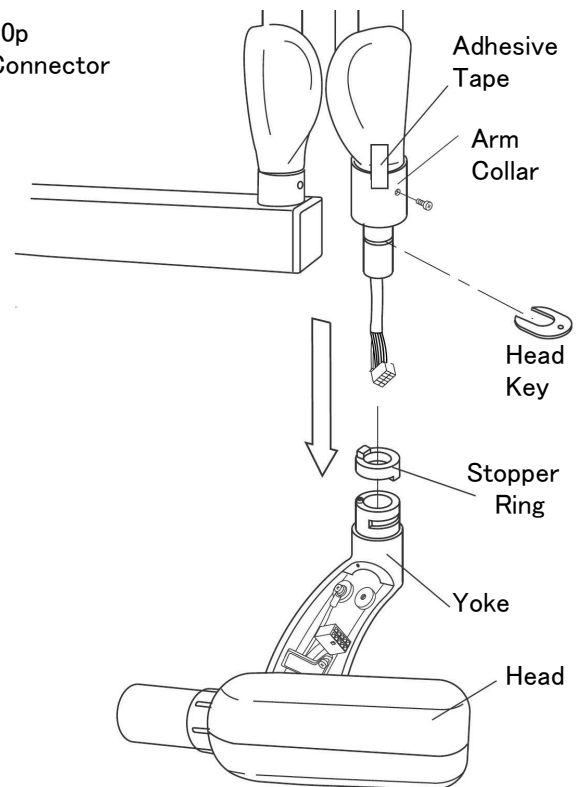

Fig. 4
5. Remove the screw which secures the arm collar. Slide the arm collar upward and temporarily hold it in position with adhesive tape. (Fig. 4)
6. Take out the head key (U shaped key) and remove the x-ray head from the arm. (Fig. 4)
7. Remove the yoke cover from the new x-ray head and insert the shaft of the balance arm into the yoke of the new head. Do not forget to insert the stopper ring. (Fig. 4)